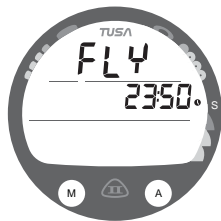

Fig. 42 - TIME TO FLY
**Time to Fly**, information includes (Fig. 42):